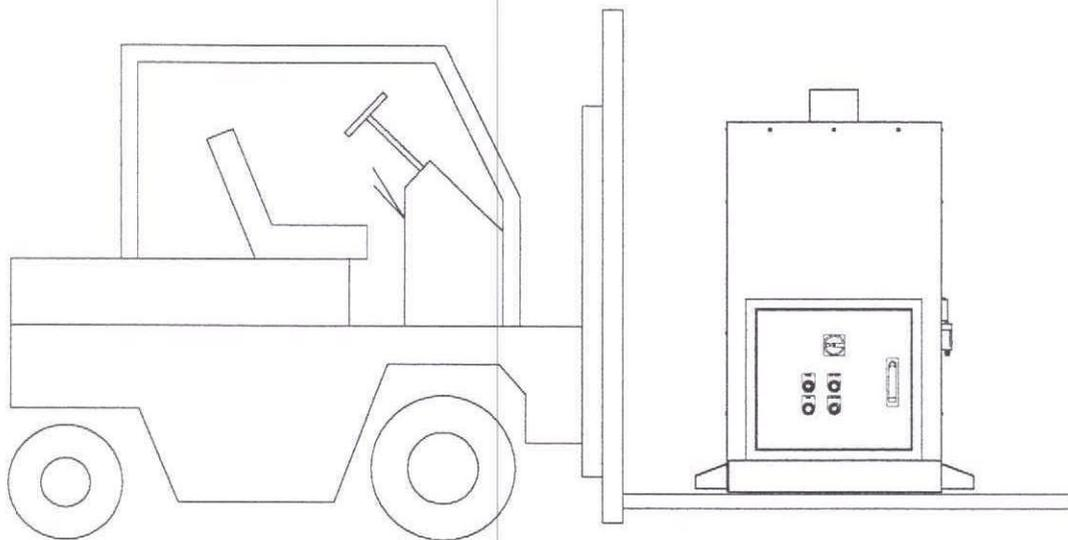

FIG. 1
1. TO LIFT MACHINE BY FORKLIFT TRUCK , SEE FIG. 1 , LIFTING MACHINE FROM THE SIDE OF MACHINE .